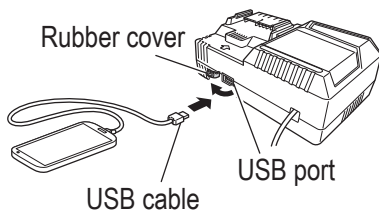

Fig. 18
2. Connect the USB cable. (**Fig. 18**)